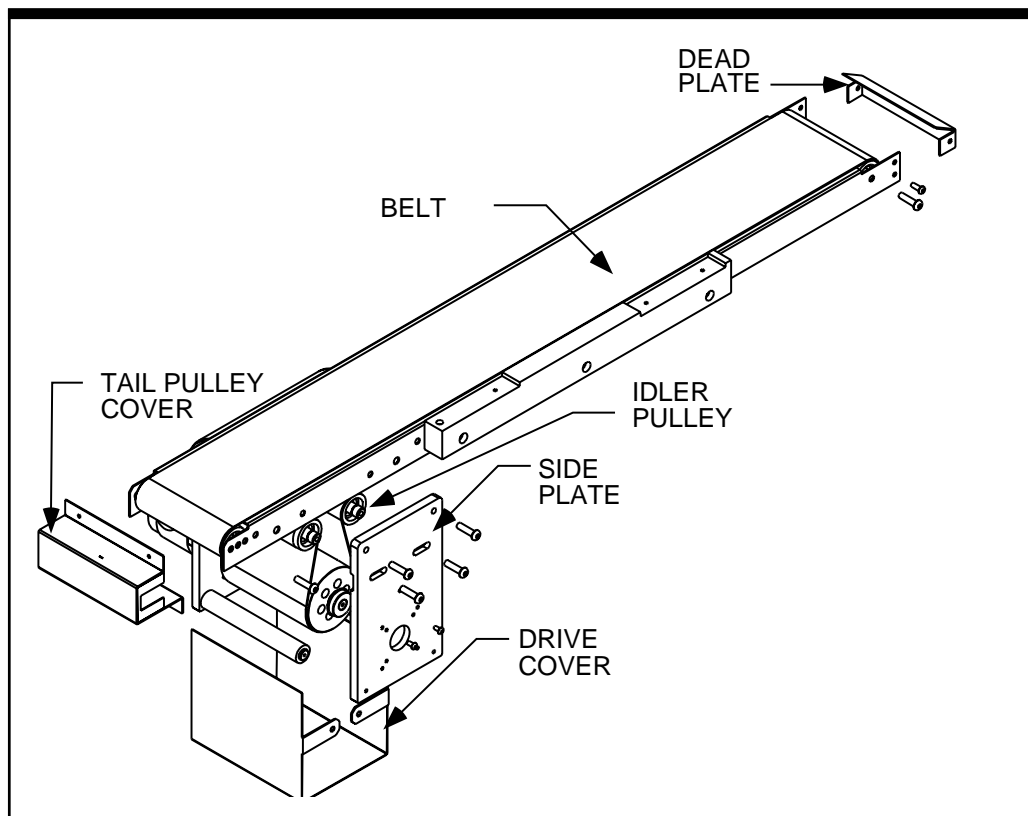

Figure 4-1. Conveyor Belt Replacement - Exploded View
**Step 3—Remove the Load Box.** Remove the (4) M8 screws that mount the load box. Swing load box out of position and rest on table or work bench. Loosen bolts and remove both end covers and the drive cover.
**Step 4—Remove Drive Cover.** Remove the drive cover from the conveyor (see *Figure 4-1*).
**Step 13—Replace Belt.** Slide replacement belt over the conveyor mount, and over the spools, threading the conveyor through the lower spools (see *Figure 4-1*).